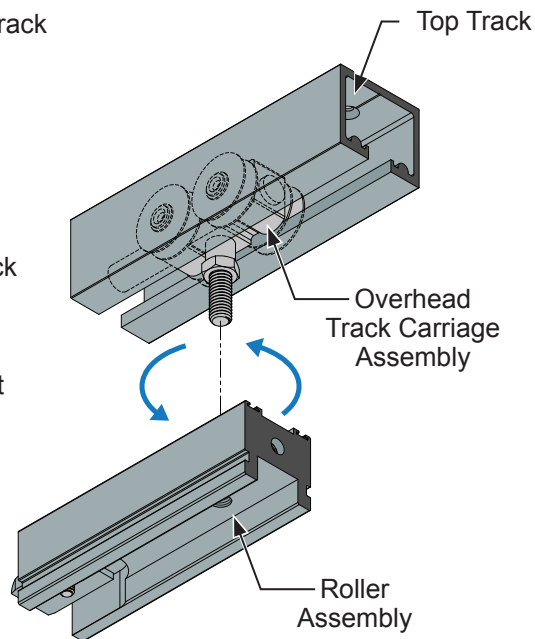

FIG. 2
2. Remove the roller assemblies by turning the roller assembly counter-clockwise. **(Fig. 2)**